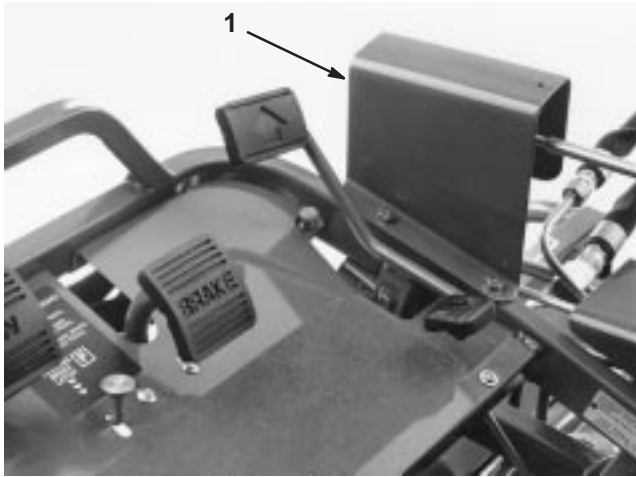

Figure 48
1. Place 1, 2 and 3 spools in neutral (center of travel) and remove the transfer rod guard from the foot panel (Fig. 48).